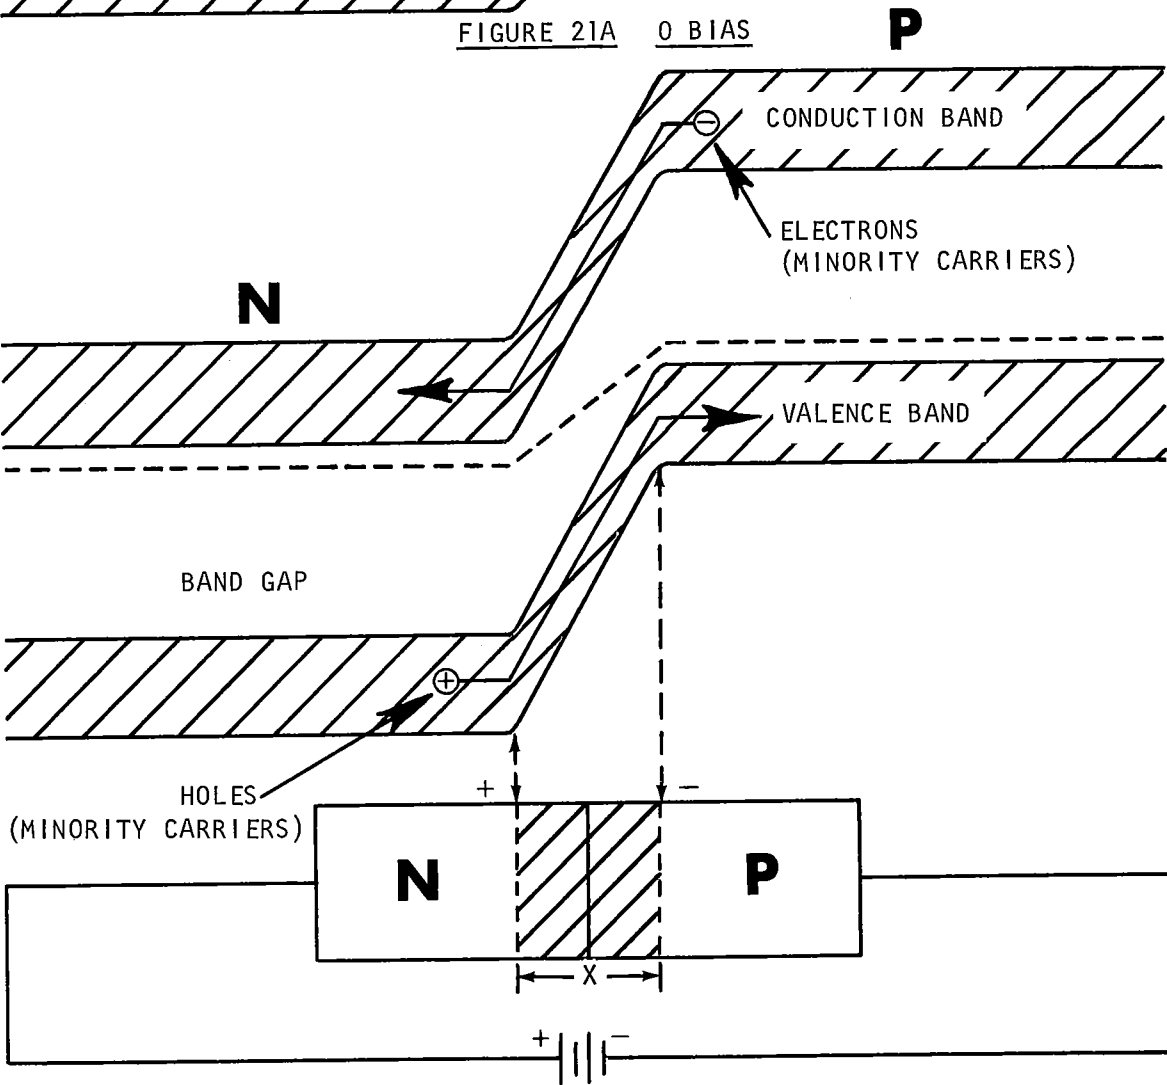

FIGURE 21B REVERSE BIAS
21.23 The area indicated by the X in figure 21B is the depletion region. Minority carriers are accelerated across the junction by the reverse bias when they enter the \_\_\_\_\_ region.